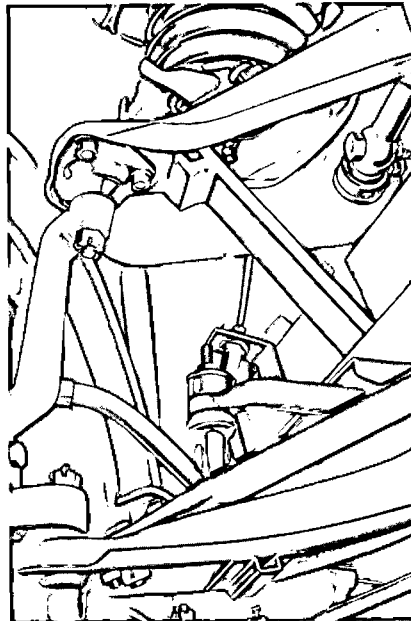

FIG. 3—Upper Arm Support
1. Position a support between the upper arm and frame side rail as shown in Fig. 3, then raise the car and position safety stands.
upper arm and frame as shown in Fig. 3.